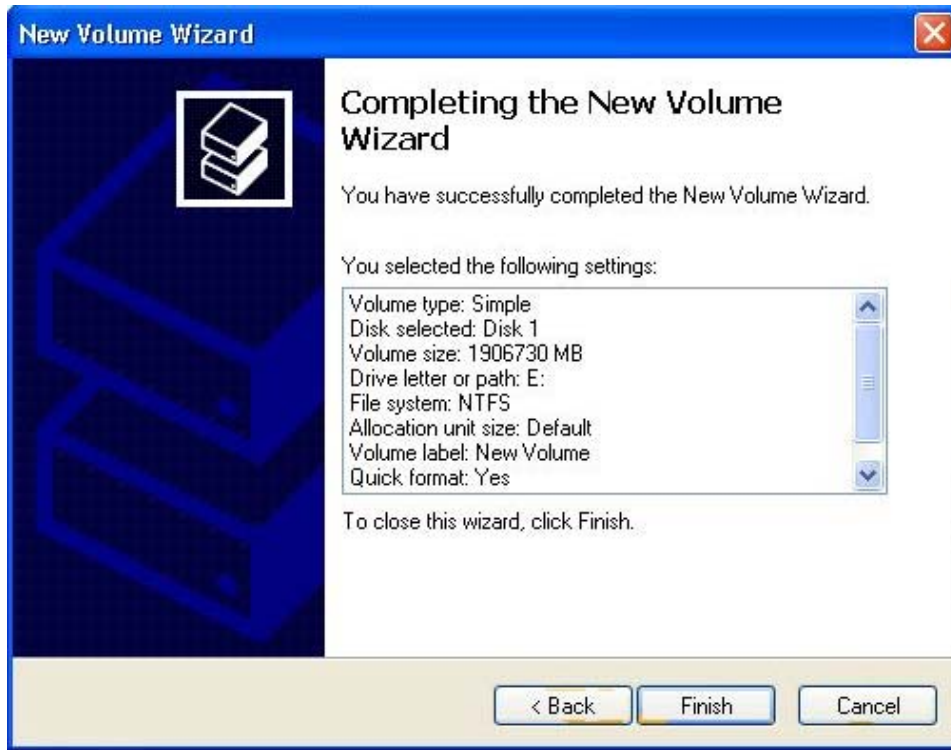

FIGURE 6-26. New Volume Wizard - Completing the New Volume Wizard Screen.
5. The *New Volume Wizard - Completing the New Volume Wizard* screen appears. Review the settings that have been made. If incorrect, click **< BACK** to make a correction at a previous screen. If OK, click **FINISH**. See Figure 6-26.